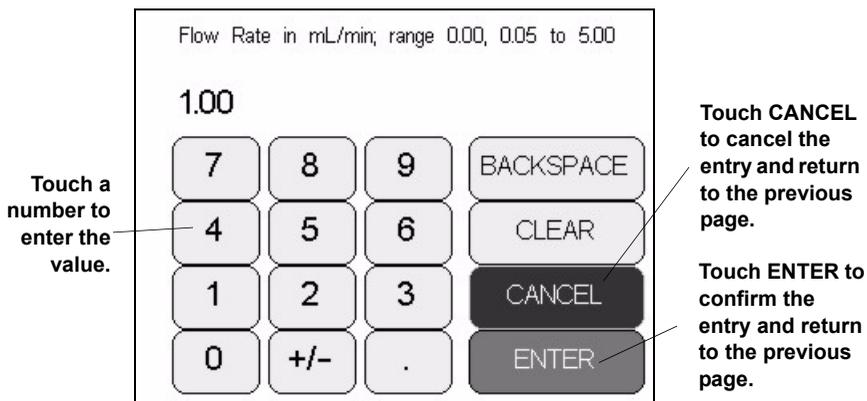

Figure C-2. Number Keypad
- Touching an edit field (for example,  mL/min) opens a page with a number keypad (see Figure C-2). Use the keypad to enter the desired numerical value for the field and then touch the **ENTER** button.